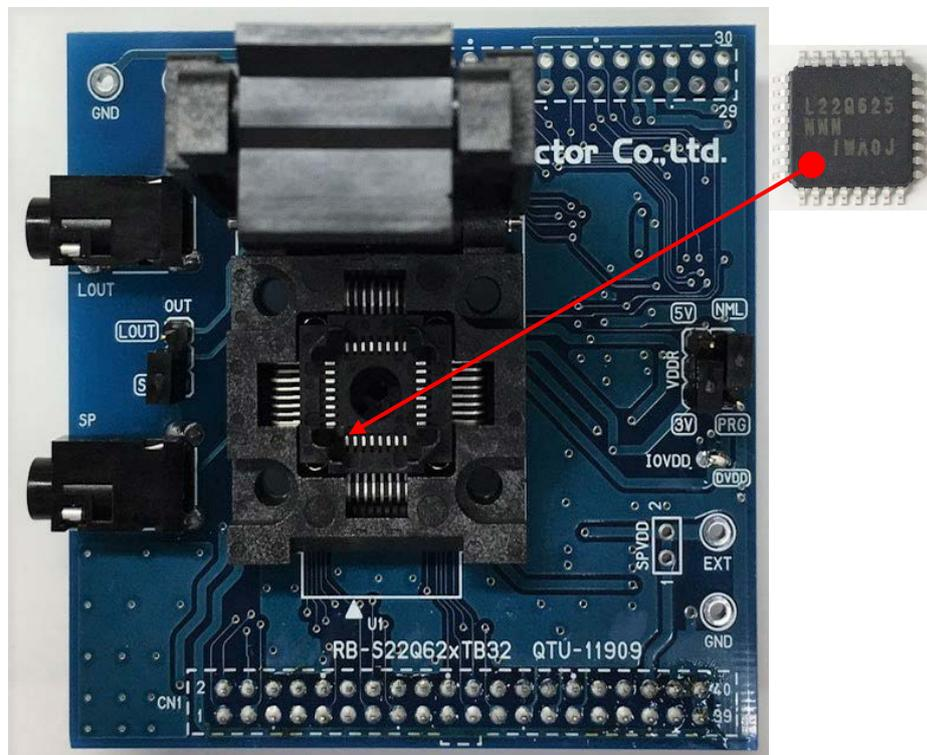

Figure 1 Outline Diagram
- Turn off the power when loading Speech Synthesis LSIs into the RB-S22Q62xTB32. Pin 1 is the position of the board silk ▲ at the bottom left with respect to the socket opening. The Figure 1 shows the setting directions of Speech Synthesis LSIs.